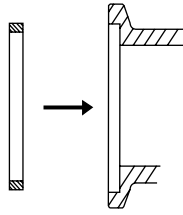

Fig. 25
12. Place the o-rings back into the manifold fittings (Fig. 25).